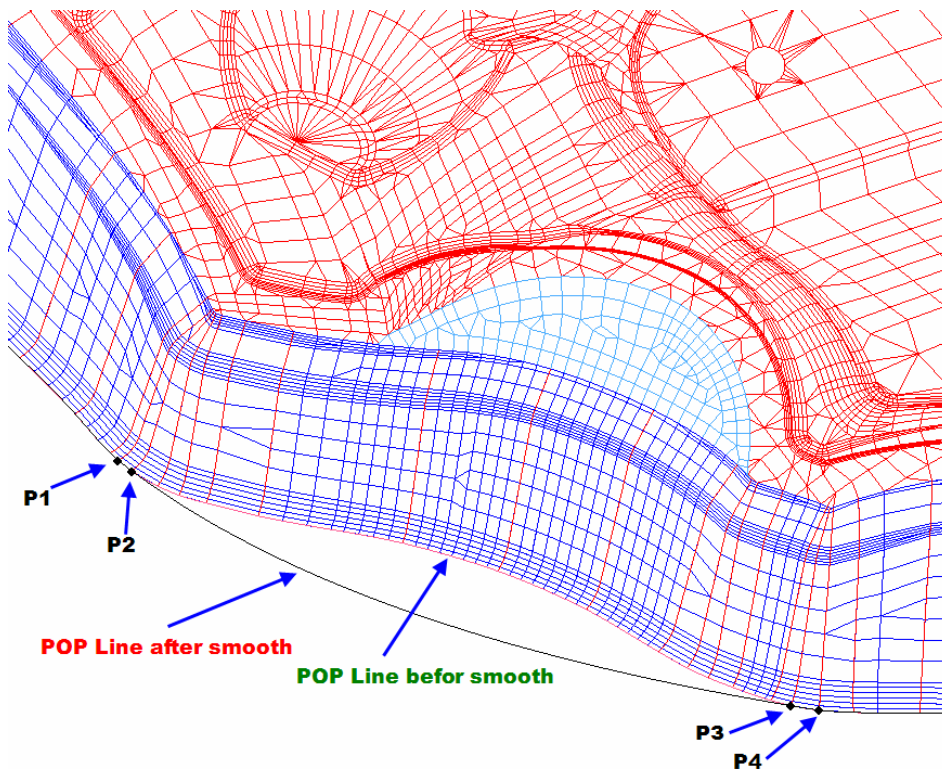

Figure 42 Smooth Addendum
5. Select points as illustrated in Figure 42, following by pressing the **Preview** button in the **Smooth** dialog box.